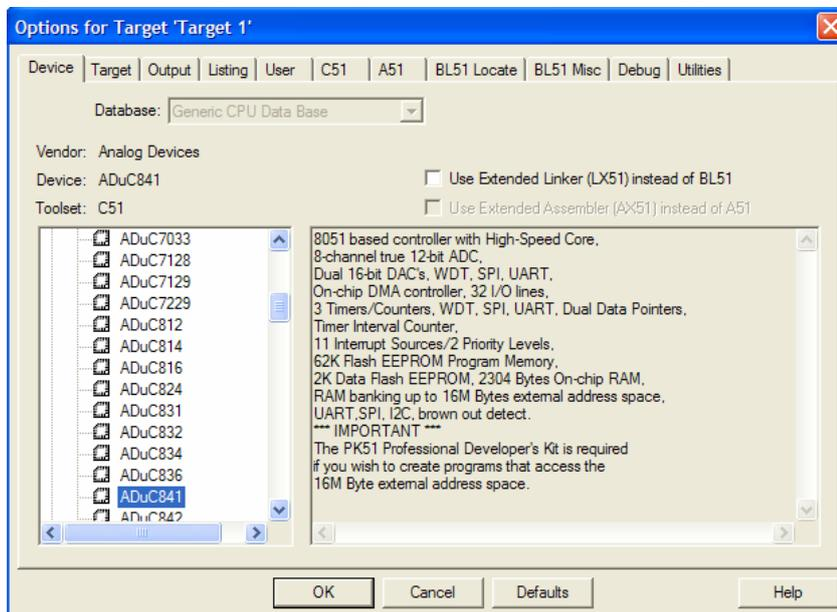

Figure 1
1). Open the “Options for Target ”, as Figure 1 shown, select the type of MCU in your PCB;